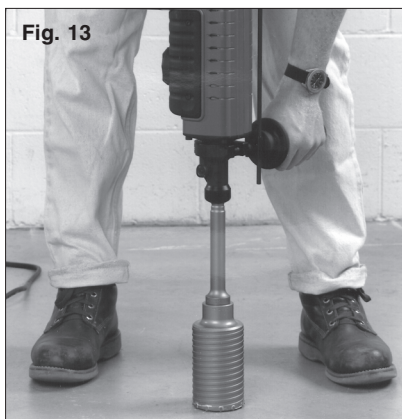

Fig. 13
3. Press the centering bit firmly against your center mark, hold the tool firmly and pull the trigger (Fig. 13).